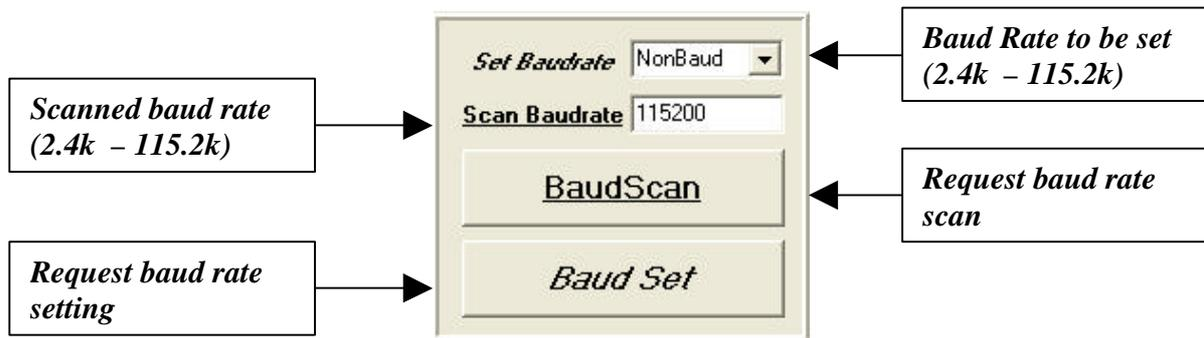

Figure 2 – Baud Scan/Set Function
- Conduct a Baud Scan to initialize communication (refer Figure 2).